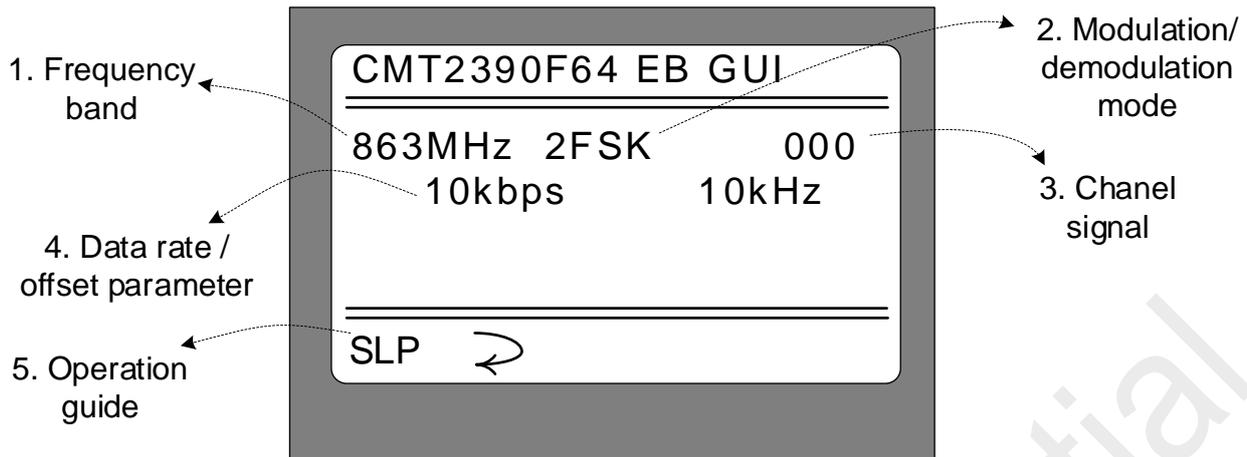

Figure 3-1. Sleep Mode Interface
Selecting "Sleep" mode and short pressing S2 “○” in main menu interface to enter Sleep working mode, as shown in Figure 3-1 below.
2. In this interface, short pressing S3 to make RF part of CMT2390F64 exit Sleep mode and return to the upper menu (that is, the screen shown in Figure 3-1. To return to the main menu, short press S3 once again).